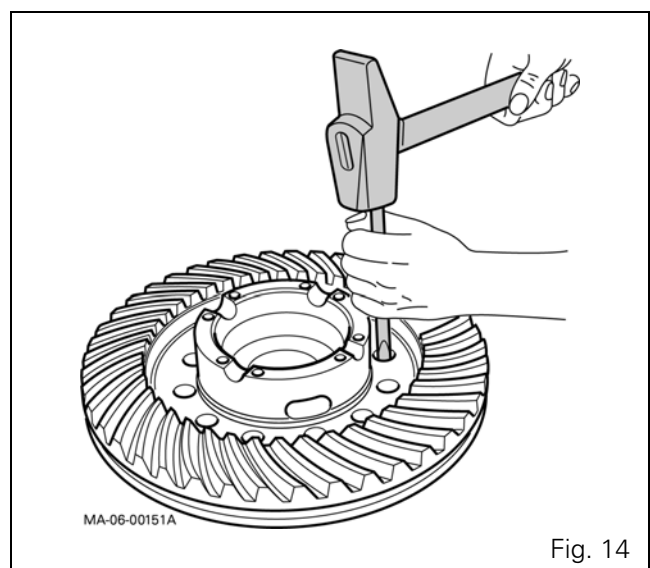

Fig. 14
- 49. Drive out the rivets using a suitable drift punch (Fig. 14).